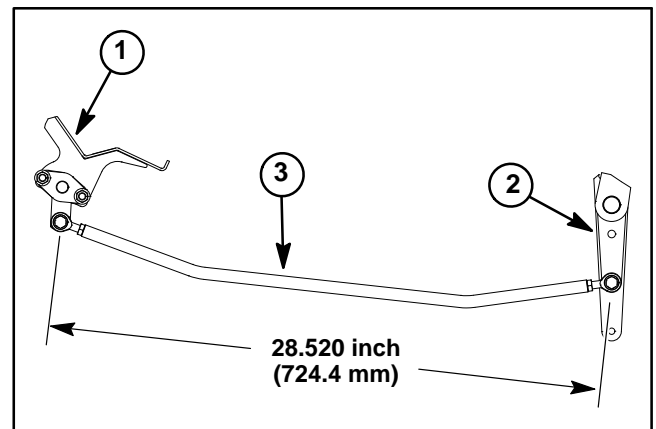

Figure 54
1. Rod ends on traction rod assembly should be installed equally into traction rod so that distance between center of rod ends is 28.520" (724.4 mm) (Fig. 54). Leave rod end jam nuts loose until traction rod is secured to traction pedal and speed control shaft to make sure that rod ends do not bind.